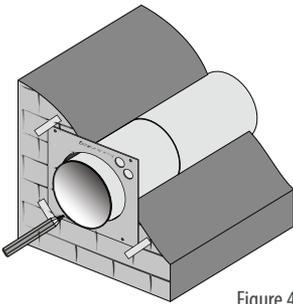

Figure 4
5. With the cardboard template, mark 4 holes for attaching the mounting plate (Figure 4).